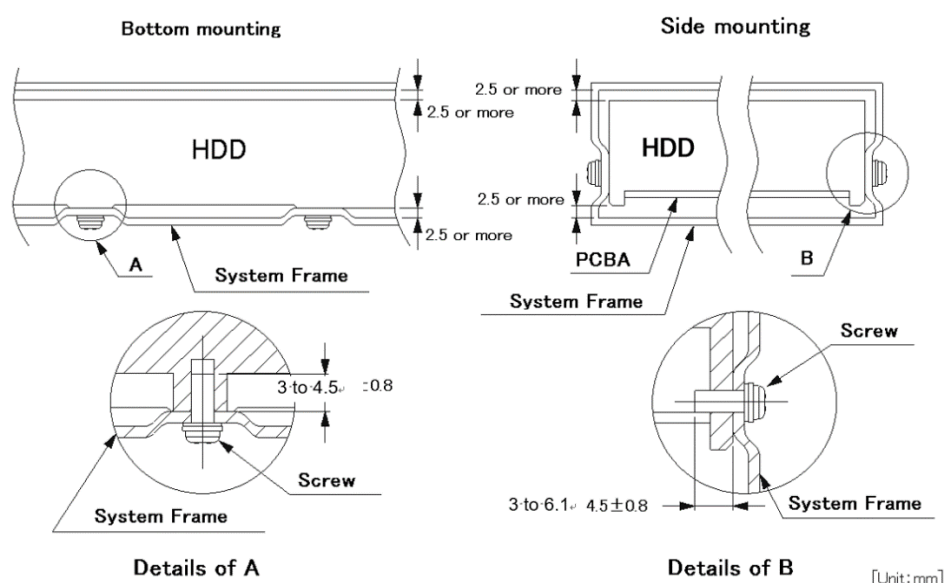

Figure 4.3 Mounting frame structure example
- The frame shall not touch the PCBA of the HDDs. For example as shown in Figure 4.3, mount the HDDs with a gap of 2.5 mm or more from the frame.
- As shown in Figure 4.3, the inward projection of the screw from the HDD frame wall at the corner must be 3 to 4.5 mm on the bottom mounting, 3 to 6.1 mm on the side mounting.